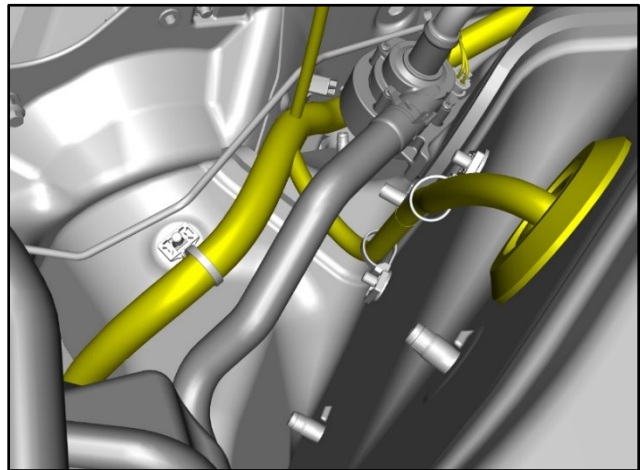

Figure 24
12. Install the wiring harness under the coolant hose (refer to Figure 24).